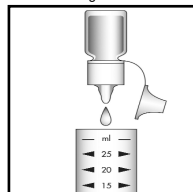

Figure 2
2. Add 4 drops of S-1404 Stabilizer Solution. Fig. 2
3. Add 4 drops of S-1405 Catalyzer Solution (green). Fig. 2
4. Add 4 drops of S-1406 Activator Solution (blue). Fig. 2